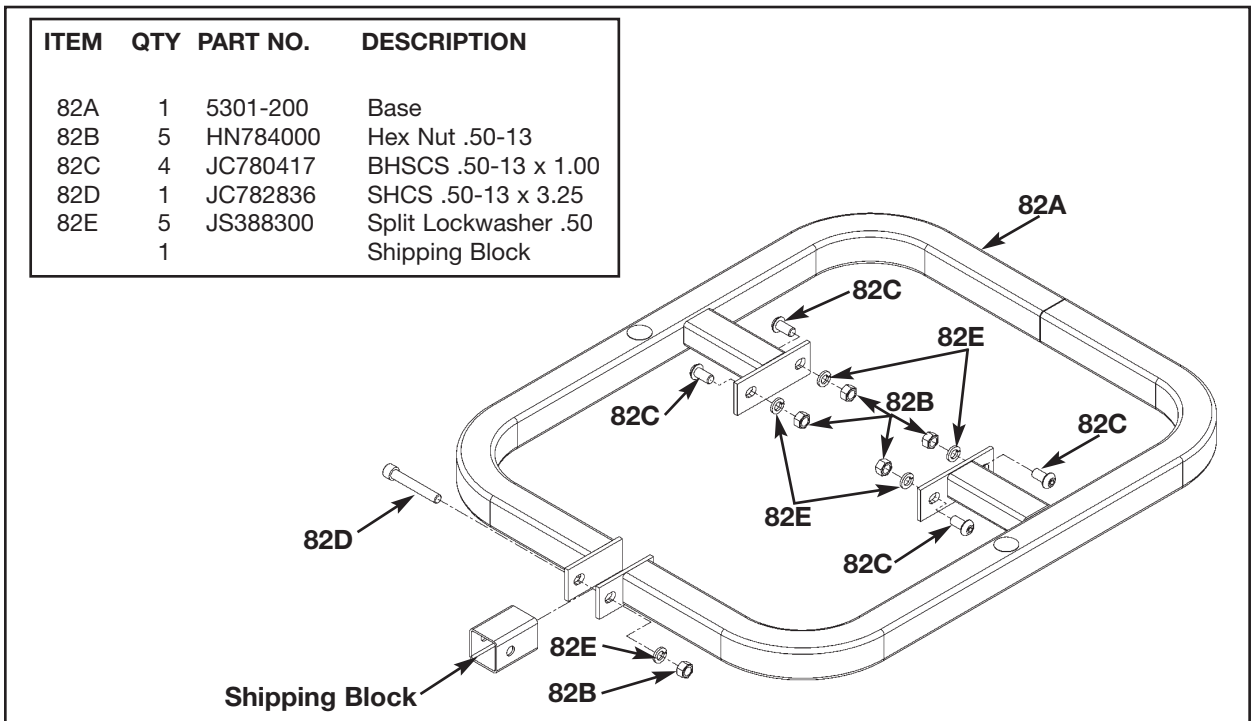

Figure 9
4. Attach column to the appropriate configuration (see steps 4A - 4E, Figures 9 and 10).
- B. Remove the hardware from the base (#82A) as shown in Figure 9.